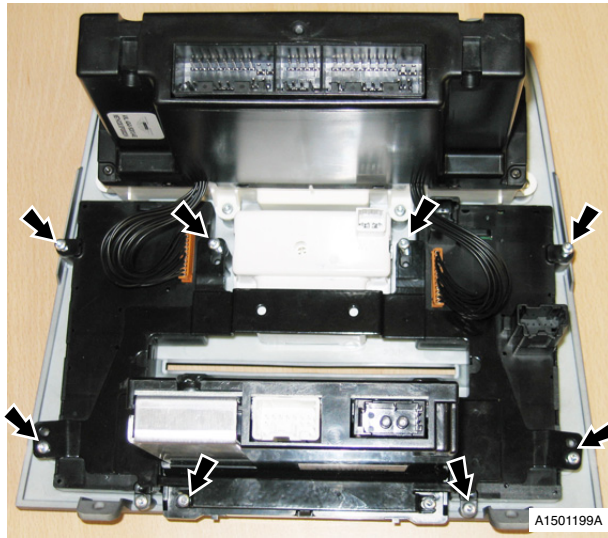

Fig. 3
- Remove screws (x8) securing centre stack support bracket, remove bracket (see Fig. 3).